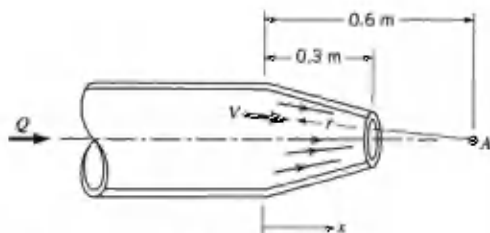

FIGURE P4.7R
4.7R (Acceleration) In the conical nozzle shown in Fig. P4.7R the streamlines are essentially radial lines emanating from point A and the fluid velocity is given approximately by  $V = C/r^2$ , where  $C$  is a constant. The fluid velocity is 2 m/s along the centerline at the beginning of the nozzle ( $x = 0$ ). Determine the acceleration along the nozzle centerline as a function of  $x$ . What is the value of the acceleration at  $x = 0$  and  $x = 0.3$  m?